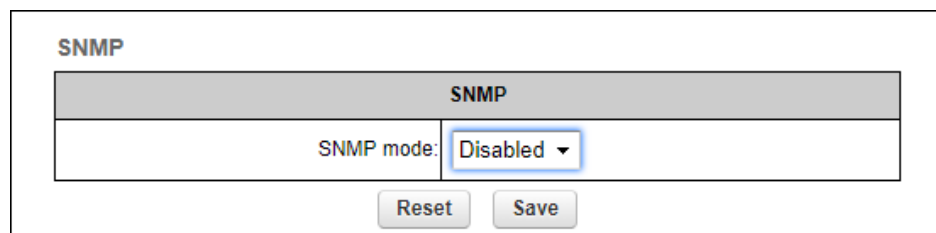

Figure 34. SNMP dialog (SNMP disabled)
- The default **SNMP** dialog will be shown (Figure 34 \(page 77\)).